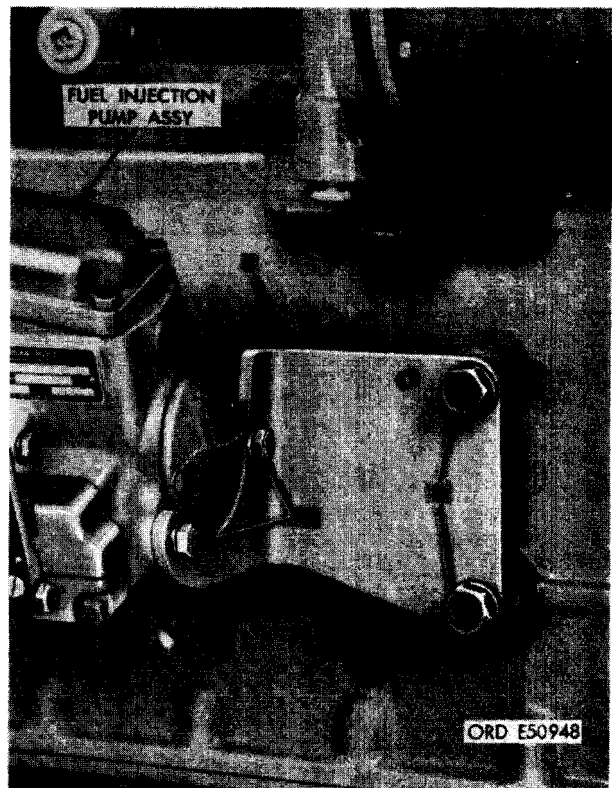

FIGURE 69. REMOVING OR INSTALLING FUEL INJECTION PUMP BRACKET (EARLY MODEL ENGINES).
- (16) Figure 69. (A) Remove two 5/16 x 3/4 cap screws and 5/16-inch lock washers securing fuel injection pump assembly to fuel injection pump bracket assembly. (B) Remove two 1/2 x 1-3/8 cap screws and 1/2-inch lock washers securing bracket assembly to cylinder and crankcase. (C) Remove bracket assembly.